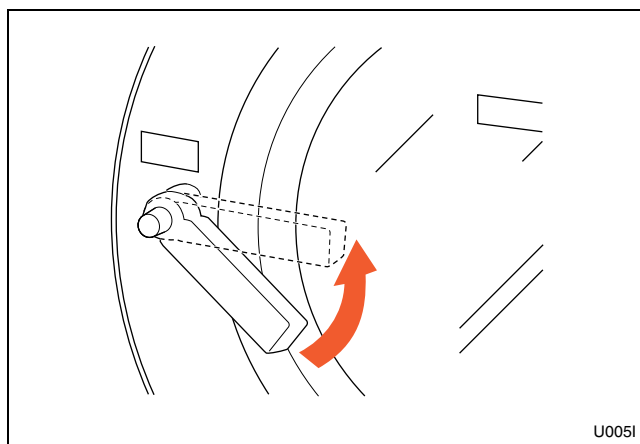

Figure 6
5. Close door and turn handle counterclockwise until button pops out. Refer to *Figure 6*.